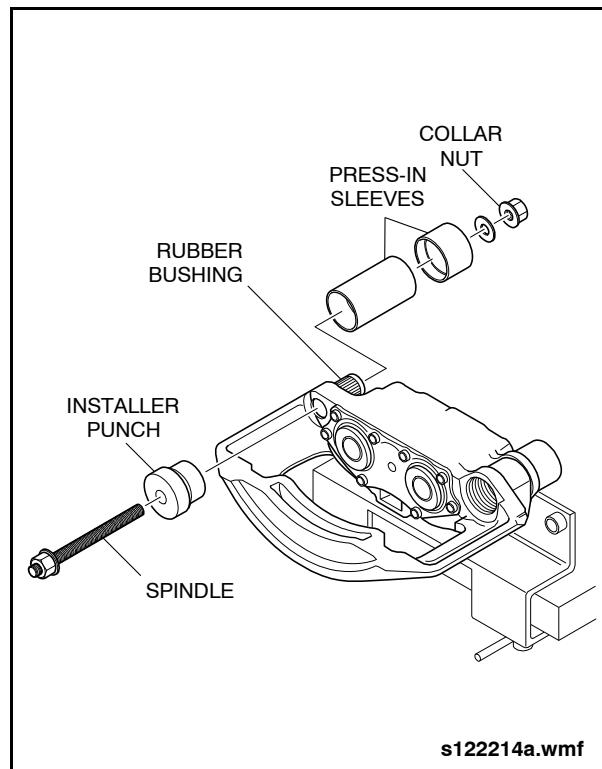

Fig. 1-59: Rubber Bushing Removal
- a. Assemble and install the installer punch, press-in sleeves, spindle, and collar nut (Items 72, 77, 75, 71, & 70 from special tools list). See "Fig. 1-59: Rubber Bushing Removal" on page 66.